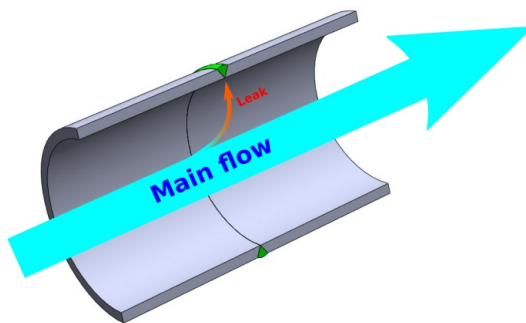

Fig. 1 : Leak principle on weld
- 1- Leak is detected (see fig. 1).